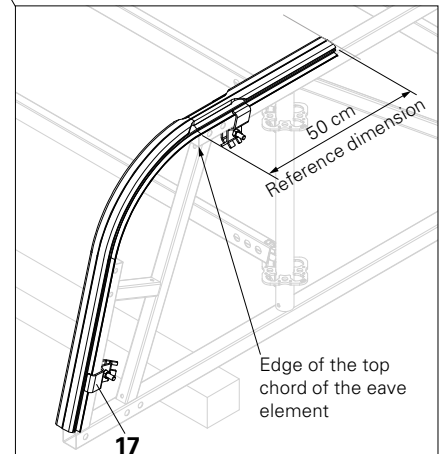

Fig. A2.01a
- Eave rail projection on the top chord of the eave element. (Fig. A2.01a)
- Fix the keder connector (**17**) to the eave rail. (Fig. A2.01a)